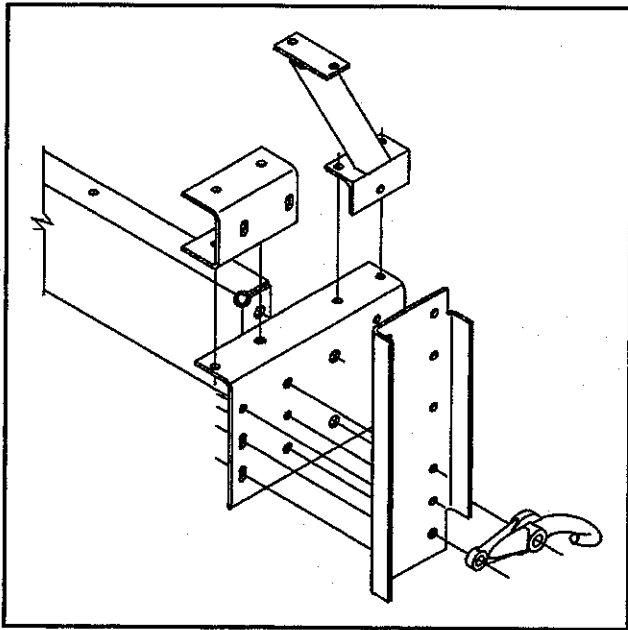

Figure 3—Tow Hook Removal
- See Figure 3—Tow Hook Removal
1. Remove the nut, flat washer, and capscrew (3) from the front bumper support bracket.